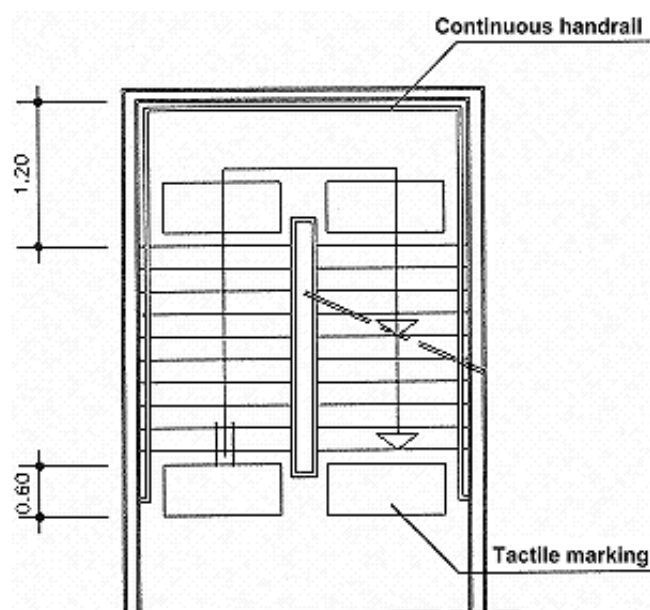
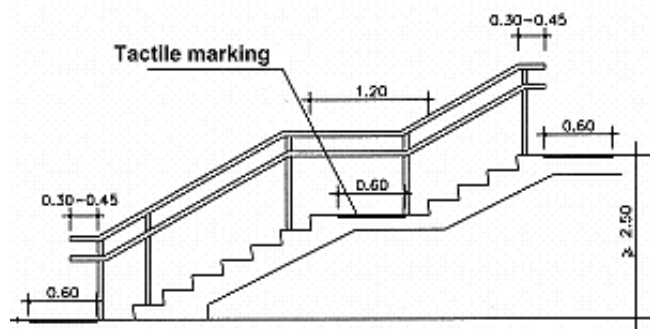

Fig. 2
Fig. 3
3.3 Landing (fig. 2) (fig. 3)
- Handrails must be installed on both sides of the stairs and around the landing for gripping (fig. 3).
top and bottom of the stairs (see Railings and Handrails) (fig. 3).
3.6 Tactile marking (fig. 2) (fig. 3)